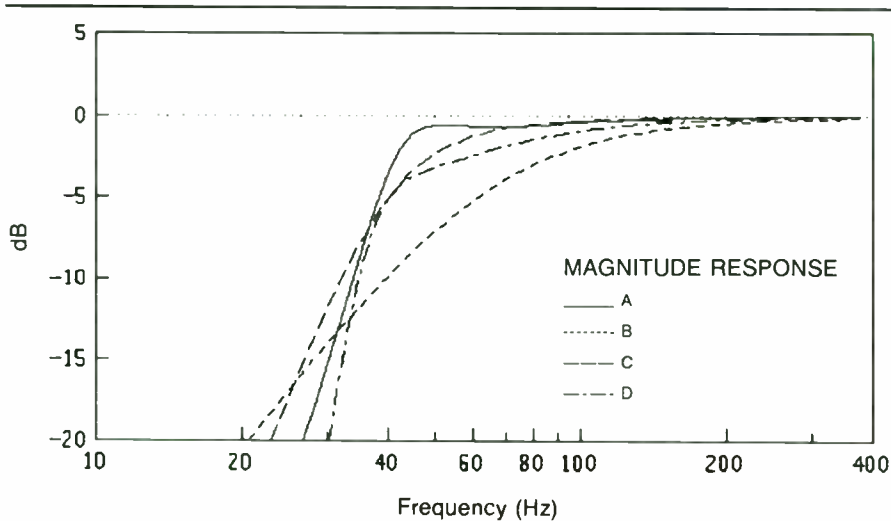

FIGURE 5: Small-signal responses. D is Figure 1 system, C is Figure 3 system, B is Figure 2 system without equalizer and A is with equalizer.
You can also plot system A together with any combination of the other three systems on the same axes. This makes it easy to compare consequences of various design alternatives, including those of using the same driver in different box types. An example of this is shown in Fig. 5 where A is an equalized closed-box, B is a closed-box, C is a vented-box and D is a passive-radiator, all with the same box volume. If you have sufficient color capability, each graph will have a different color. Even without color you can distinguish the
DIFFERENT BOXES. Lets use the parameters given in Fig. 1 and make (B) a closed-box and (C) a vented-box. Also, lets take (A) to be the same closed-box with an equalizer with $Cnr = 42\text{Hz}$ and $Dmp = 0.44$. The small-signal responses are shown in Fig. 5. As you might expect, the simple closed-box has the poorest low frequency response. But the equalized closed-box has the best! Even so, it may not be the best choice. To see why, lets look at the cone excursions at 20 watts input shown in Fig. 6. The excursions of the equalized closed-box (A) are much greater than in the other two systems and exceed the linear limit x_{mx} by a fair margin over a wide band of frequencies around 40Hz. Thus, it is more likely to produce audible distortion in this band. For a commercial system, I would tend to steer clear of it because it would be easier to damage the woofer.